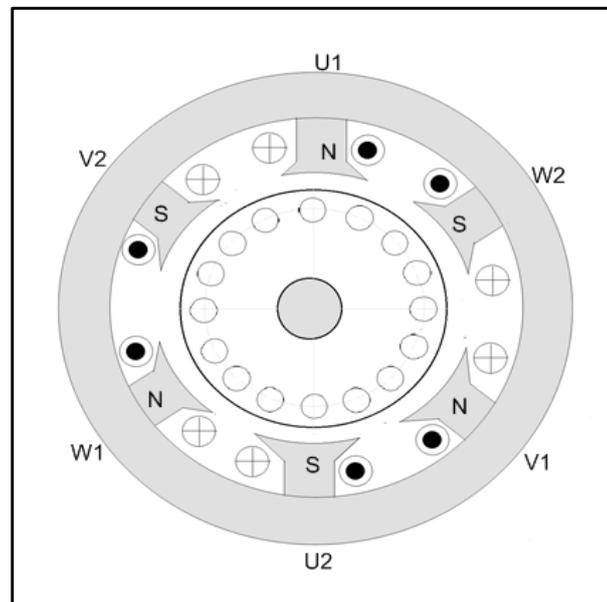

FIGURE 4.1: THREE-PHASE SQUIRREL-CAGE INDUCTION MOTOR
4.1 Refer to FIGURE 4.1 and answer the questions that follow.